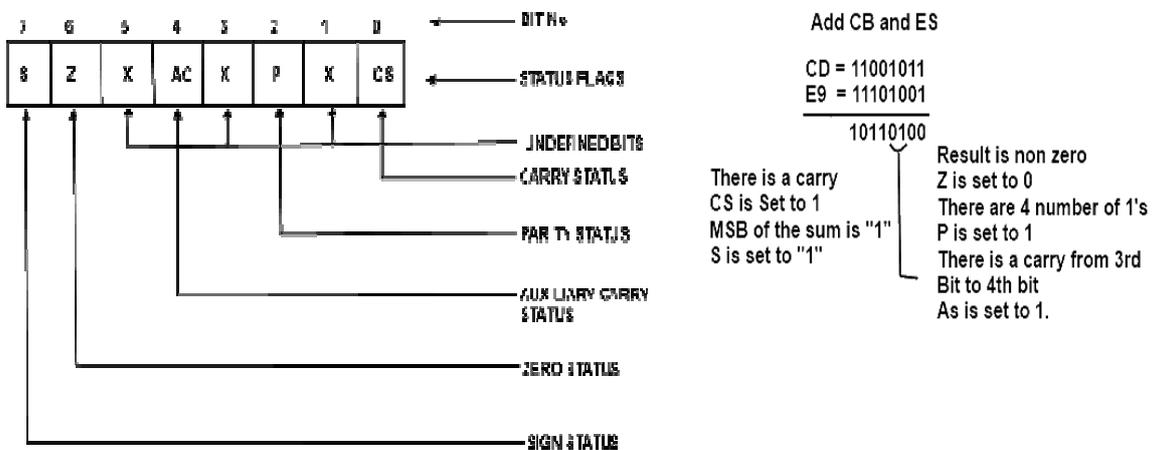

Fig 1.3 Program Status Word
- Carry flag (CS)
- Parity Flag (P)
- Auxiliary Carry Flag (AC)
- Zero Flag (Z)
- Sign Flag (S)
- ✓ In fig 1.3, five bits indicates the five status flags and three bits are undefined. “ The combination of these 8-bits is called **Program Status Word (PSW)**”. PSW and the accumulator are treated as a 16-bit unit for stack operation.